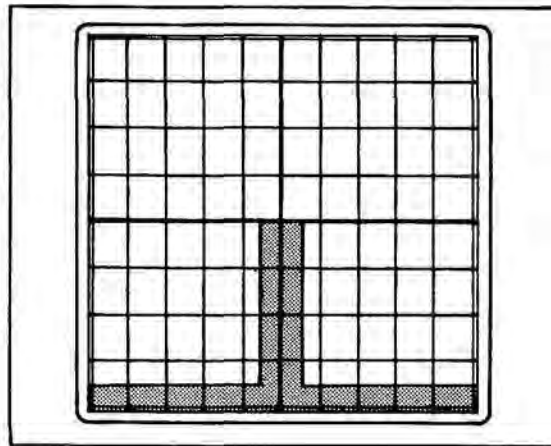

Figure 7-22 144 to 145 MHz Frequency Range Display
6. Rotate ANALY DISPR Control (41) fully ccw just short of detent. Verify bench Spectrum Analyzer display is similar to Figure 7-22 below. Amplitude should be between 0 and +10 dBm for the frequency range of approximately 144 to 145 MHz.